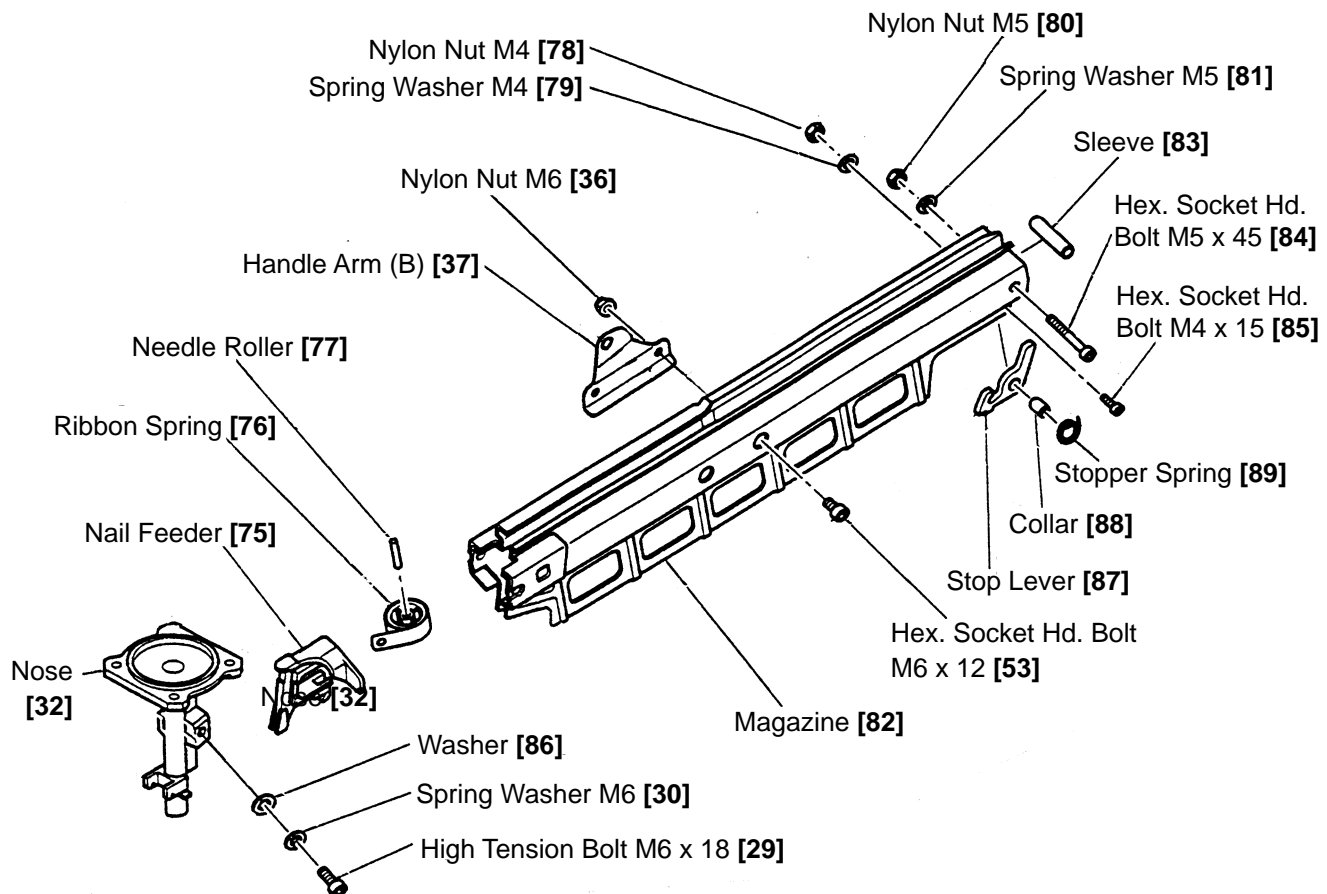

Fig. 20
(2) Magazine [82] and the related parts (See Fig. 20.)